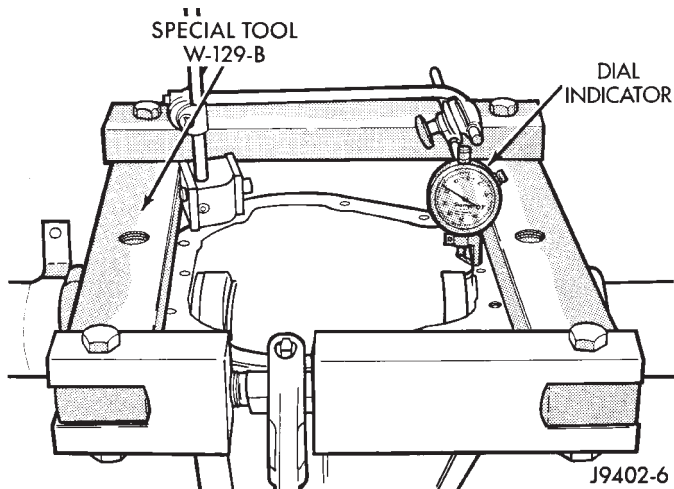
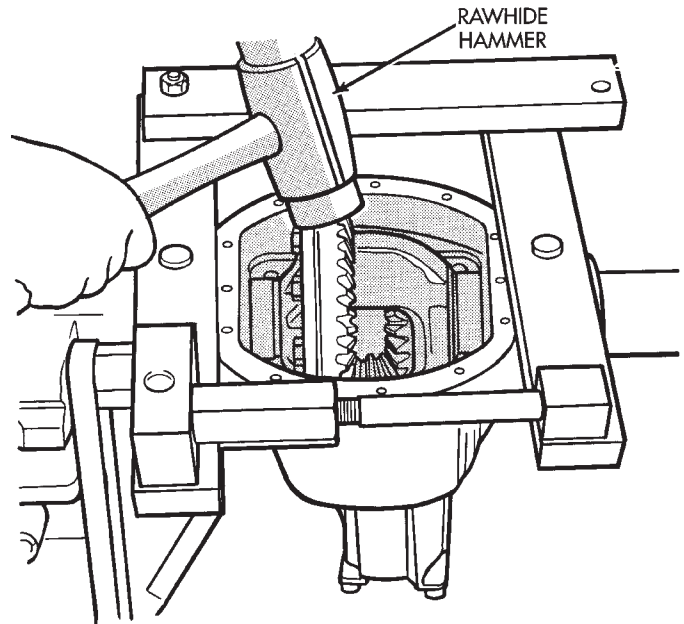

Fig. 60 Spread Differential Housing
Fig. 61 Differential Installation
(1) Position Spreader W-129-B with the tool dowel pins seated in the locating holes (Fig. 60). Install the holddown clamps and tighten the tool turnbuckle finger-tight.
stud. Load the indicator plunger against the opposite side of the housing (Fig. 60) and zero the indicator.
(3) Spread the housing enough to install the case in the housing. Measure the distance with the dial indicator (Fig. 60).
(4) Remove the dial indicator.
(5) Install case in the housing. Tap the differential case to ensure the bearings are fully seated (Fig. 61). Remove the spreader.